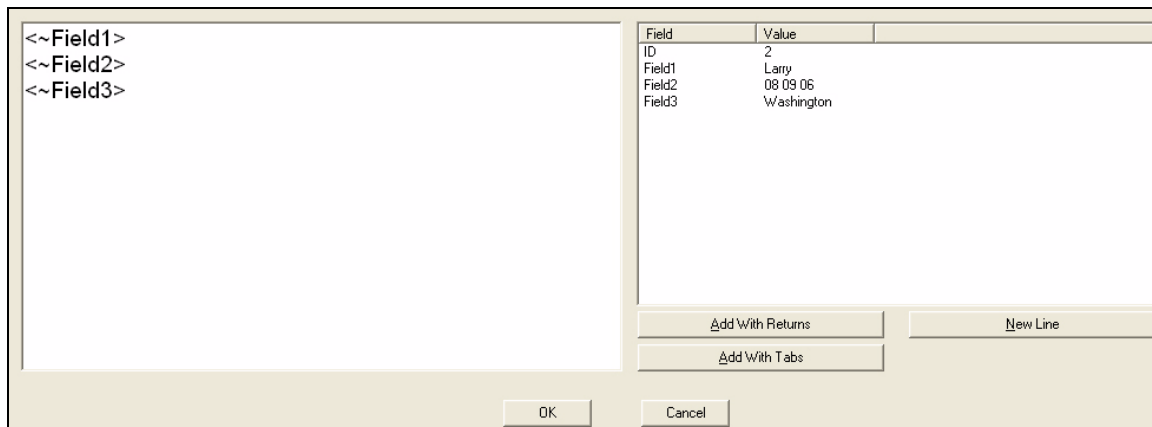

Figure 4-13: Fields Selected
- 4 Double-click the selected database fields from the *Field* list to the right. These fields move to the left side of the screen (see Figure 4-13 on page 4-11). You can also select the field and click the *Add With Return* button or *Add With Tabs* button.